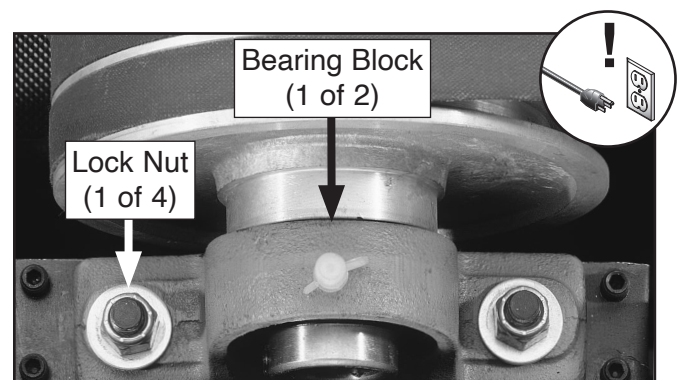

Figure 45. Location of bearing blocks.
4. Loosen lock nuts on bearing blocks (see **Figure 45**) and adjust sanding drum forward or backward as necessary until distances between outside of drum and inside of front brace on both ends of drum are within $\frac{1}{8}$ " of one another.